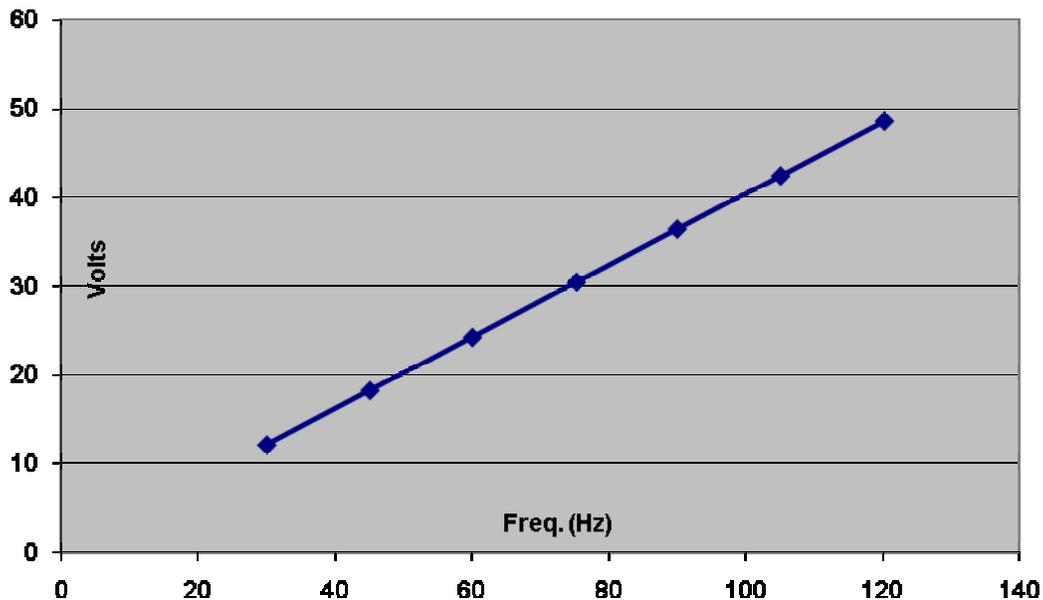

Fig. 1. No Load voltage characteristics of GMI 3 kw generator
1. The test results of no-load voltage characteristics are shown as in Fig. 1.